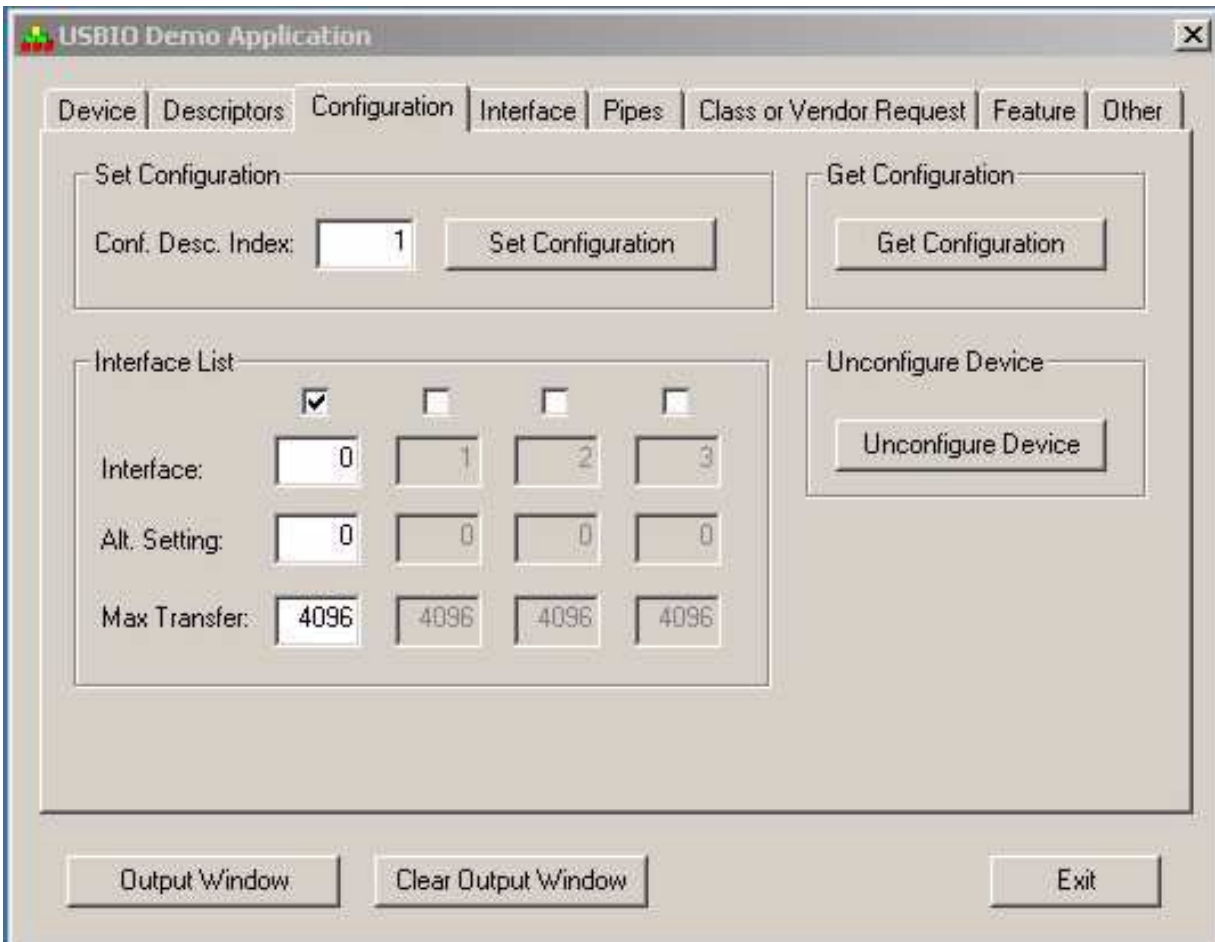

Figure 5. USB Demo Application in Step 8
- Go to the Configuration tab, enter 1 in the Configuration Descriptor Index box and select the Set Configuration button, as shown in Figure 5.